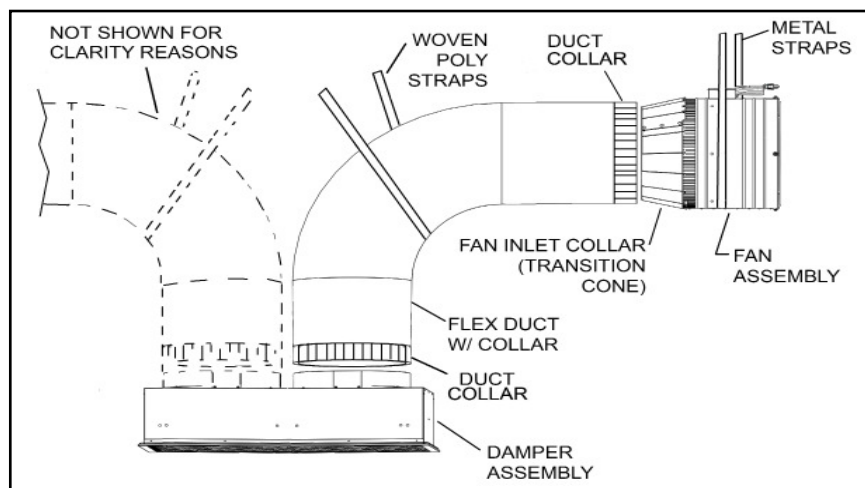

FIGURE 3: FLEX DUCT TO TRANSITION CONE TO FAN ASSEMBLY CONNECTION (MODELS: S6.5)
- Refer to Figure 3 for Flex Duct to Fan Assembly Connection. This model includes a transition cone to be installed on the inlet side of the fan assembly BEFORE mating the flex duct to the fan assembly. The transition cones are shipped loose with the flex duct and in the same box as the flex duct and fan assembly.
3. Fan Inlet Collar (Transition Cone) Installation for Model S6.5 (Refer to Figure 3): Connect the transition cone to inlet side of fan assembly using 4 self-driving/self-tapping sheet metal screws provided in the hardware kit. Seal joint with approved duct tape, metal tape, mastic or other approved means.
4. Adjust the flexible duct collar on the upstream end (fan side) of the duct to be as loose as possible which may require the removal of the slide rivet on the flex duct collar section for maximum opening (looseness). Install four (4) self-driving/self-tapping screws provided to secure the flex duct to fan assembly or transition cone connected to the fan assembly. (Refer to Figure 3) Squeeze and position the other end of flex duct collar section over the oval-shaped collar on the damper box and secure in place using three (3) self-drilling/self-tapping screws provided. Note: that twisting the duct during assembly will cause the fan to try to roll out of position. Seal joint with approved duct tape, metal tape, mastic or other approved means.